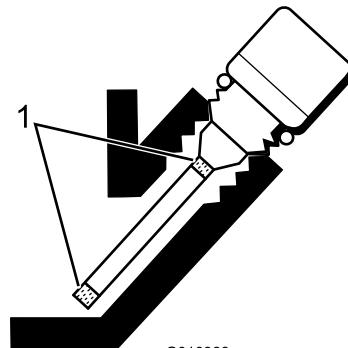

Figure 27
5. If the level is low, add only enough oil to raise the level until it is between the hatch marks on the gauge (Figure 27). **Do not overfill.**